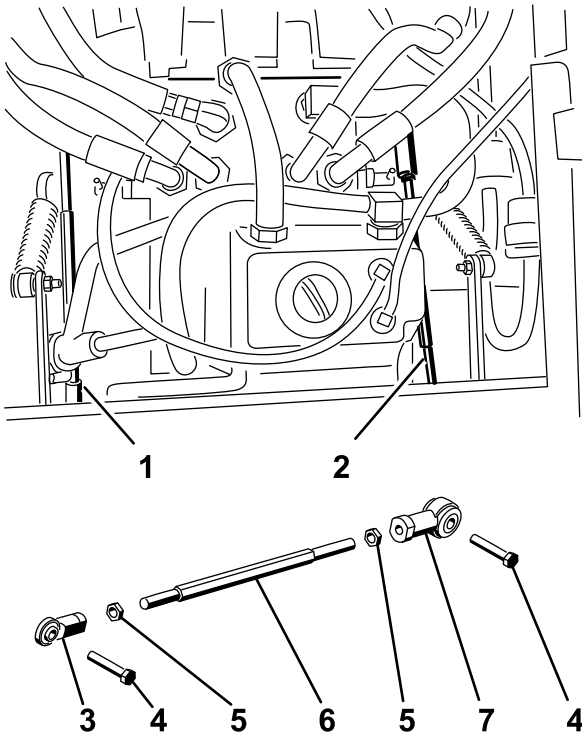

Figure 55
6. Adjust the pump rod length on one side by rotating the hex shaft, in the appropriate direction, until the corresponding wheel is still or slightly creeping in reverse (Figure 55).